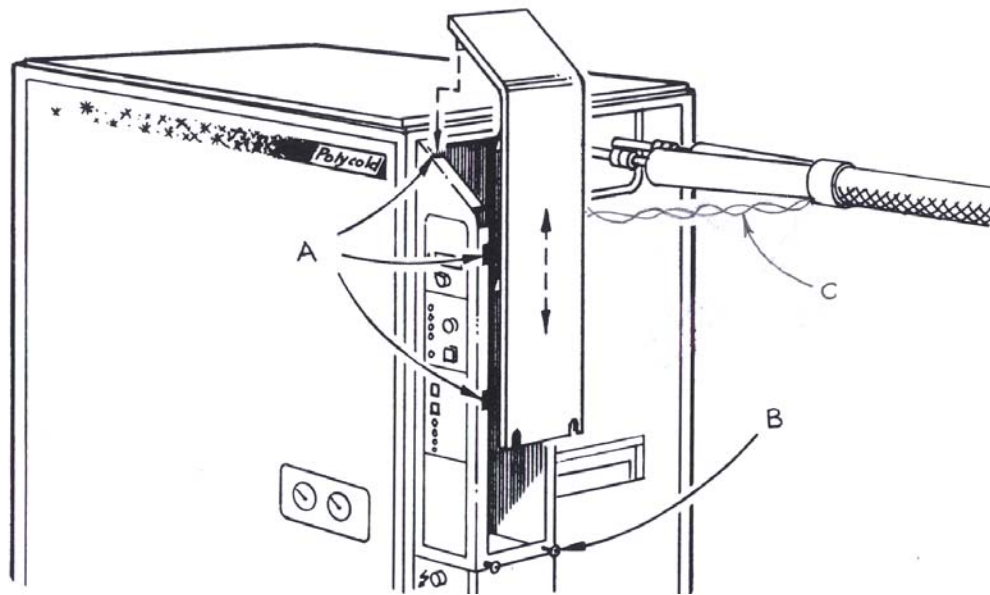
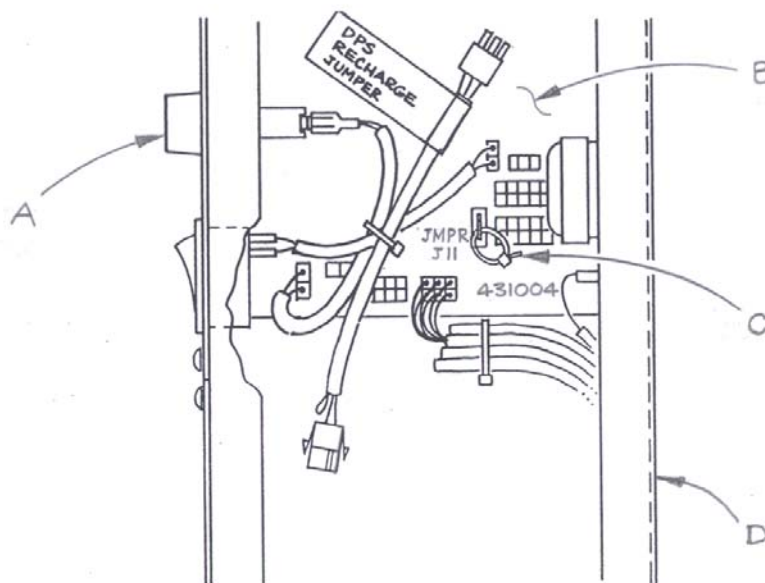

Figure 4-18: Low Voltage Box Panel Removal
Figure 4-19: Jumper J11 location
1. Loosen the two lower screws on the side of the low voltage box. Slide the panel straight up to remove it. (See Figure 4-18 Low voltage box panel removal and Figure 4-19 Jumper J11 Location.)